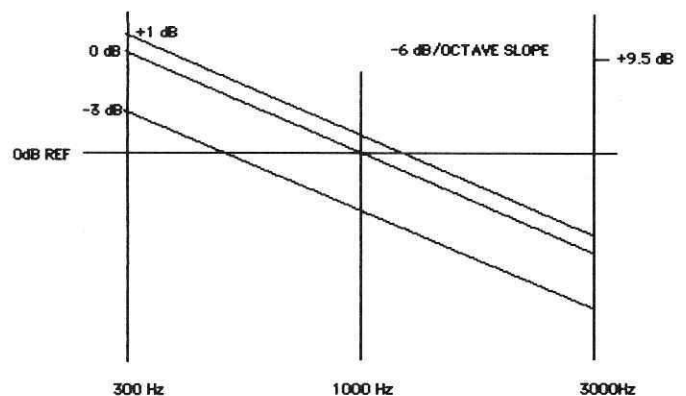

FIGURE 5.3—RECEIVER AUDIO FREQUENCY RESPONSE
10. Plot the resulting values using 0 dB as the reference and compare them with the 6 dB per octave curve in your receiver's service manual or with the EIA specification as shown on figure 5.3.